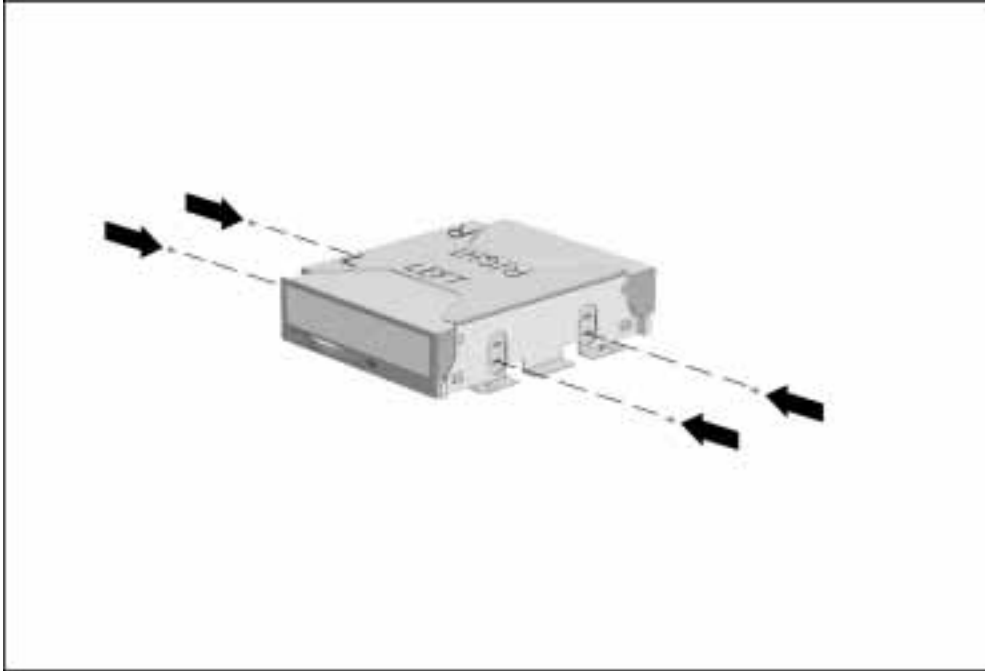

Figure 5-24. *Installing the Half-Height MultiBay Adapter Screws*
6. Install the screws securing the half-height MultiBay adapter to the drive cage (Figure 5-24).